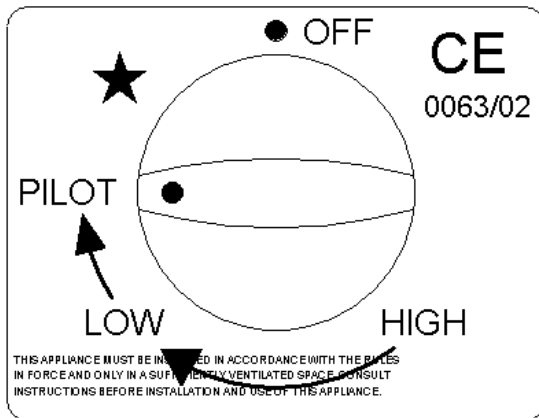

Fig 5e
Step 3. To turn the main burner off while keeping the pilot alight, rotate the operating knob back to the **PILOT** position. (Fig 5e)